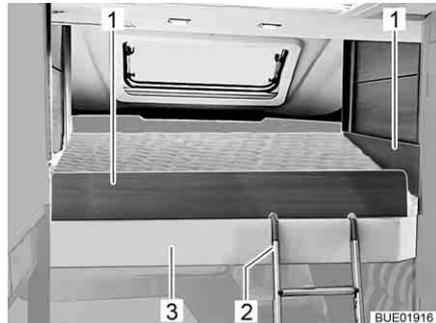

Fig. 106 Pull-down bed with safety plates
- Insert the safety plates (Fig. 106,1) between the mattress and the bed surround (Fig. 106,3).
- Hook both bows of the access ladder (Fig. 106,2) into the bed surround (Fig. 106,3).
- Release the access ladder (Fig. 106,2) from the bed surround (Fig. 106,3).